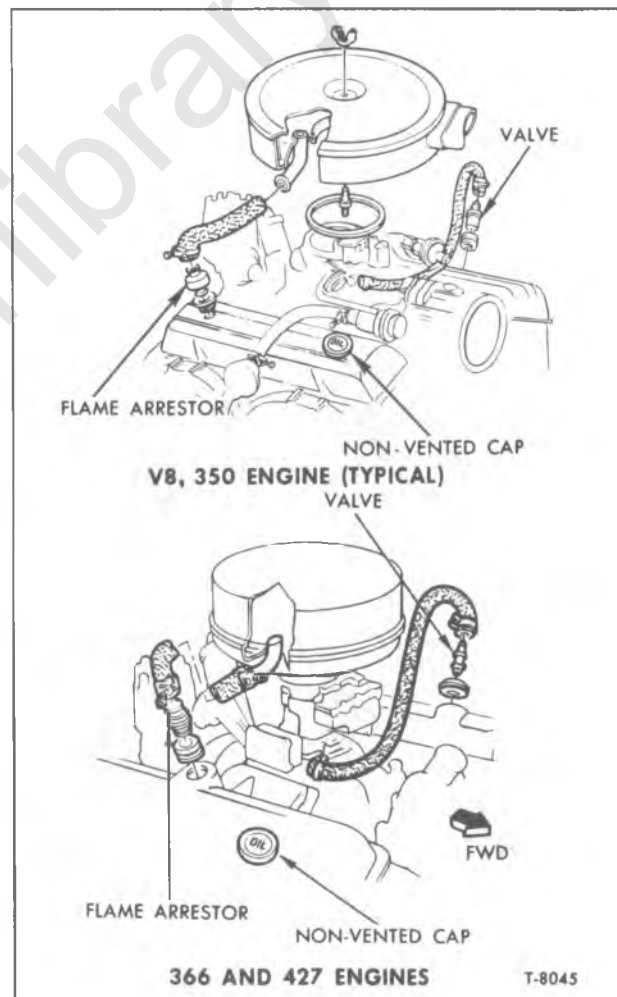

Figure 9—Arrangement of Crankcase Ventilation Units on V8 Engine
Figure 9 shows typical closed type crankcase ventilation on In-line engine. The ventilation valve (2) is inserted in hole in rocker arm cover and flame arrestor (3) is used in air hose (8) connecting air cleaner to rocker arm cover.
Figure 9 shows system components on V8 engines.
1. To replace crankcase ventilation valve. Remove the valve assembly (fig. 9) from rocker arm cover with hose attached.